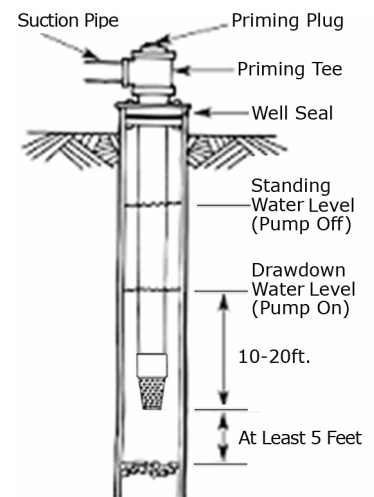

Figure 2
5. If using priming tee with a plug as shown on Fig. 2, also fill the suction line